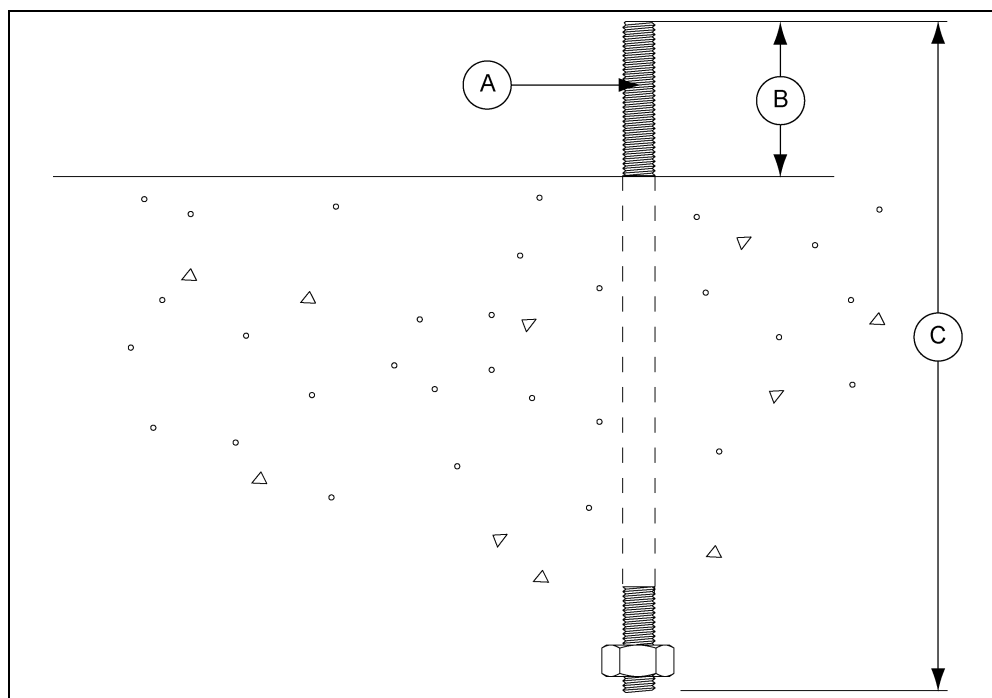

Figure 4C Anchor Bolt Example (3/4" Diameter Anchor Bolt Shown)
1. 5/8" Diameter anchor bolt (A) is the minimum allowed, 3/4" diameter anchor bolt (A) is the minimum with sidedraw flume system.
2. Exposed anchor bolt thread height (B) for 5/8" and 3/4" diameter anchor bolts are 3" (7.6 cm) and 5" (12.7 cm) respectively.
3. Overall anchor bolt length (C) for 5/8" and 3/4" diameter anchor bolts are 14" (35.56 cm) and 18" (45.72 cm) respectively. *(See Figure 4C.)*